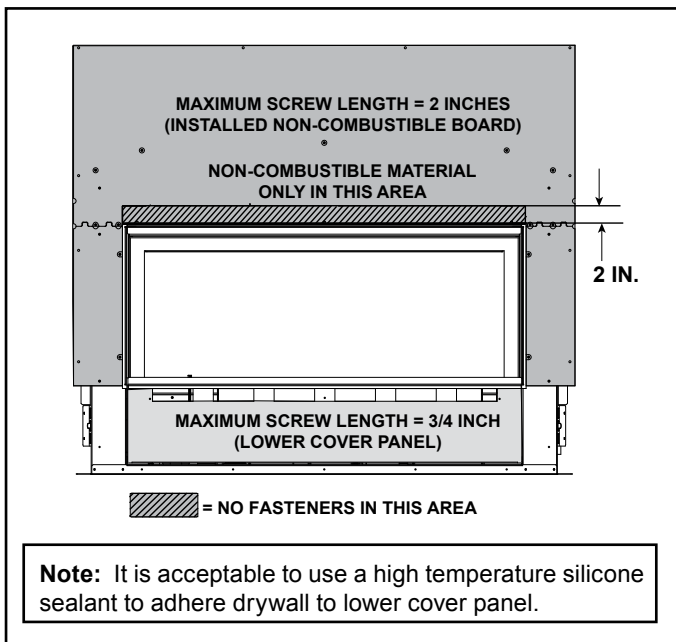

Figure 10.1 Screw Length Requirements
- Seal gaps between the finished wall and appliance top and sides using a 300 °F minimum sealant. Refer to Figure 10.1.
When finishing the wall around the fireplace, it is critical that wall sheathing be fastened properly. Wall sheathing fasteners, such as screws or nails, are not permitted in some locations. See Figure 10.1.
It is acceptable to pre-drill holes and use self-tapped screws in the factory-included non-combustible board which may be used to lathe (a backer for tile, marble, etc.). Screws being installed through the installed non-combustible board should be self-tapping type with a maximum length of 2 inches. See Figure 10.1.
When installing finish material on the lower cover panel, DO NOT drill or install screws longer than 3/4 of an inch. Screws longer than 3/4 of an inch could penetrate the lower cover panel causing damage to components or penetrate the gas line. See Figure 10.1.